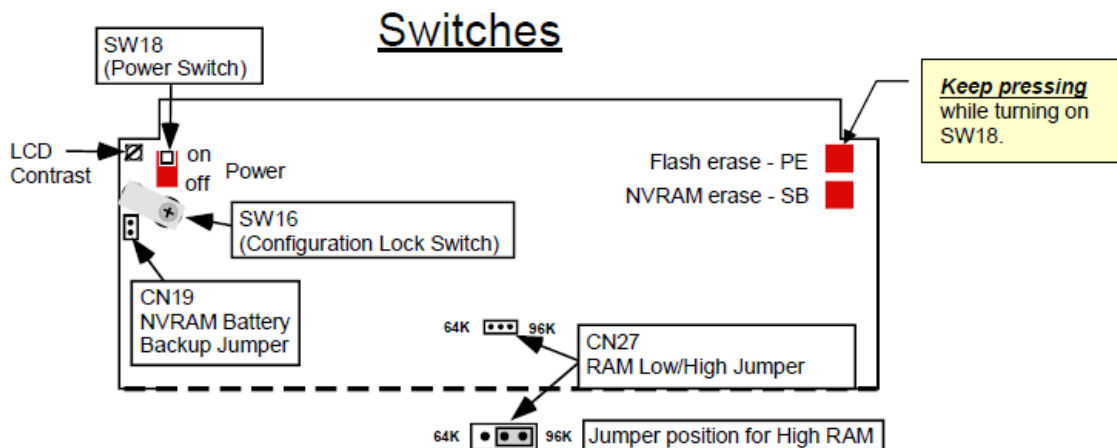

Figure 4.1—Scanner 1131 main board switch locations
5. Power down the Scanner by moving the slider switch SW18 to the OFF position. (SW18 is located at top left-hand corner of the main board next to the battery; see Figure 4.1.)